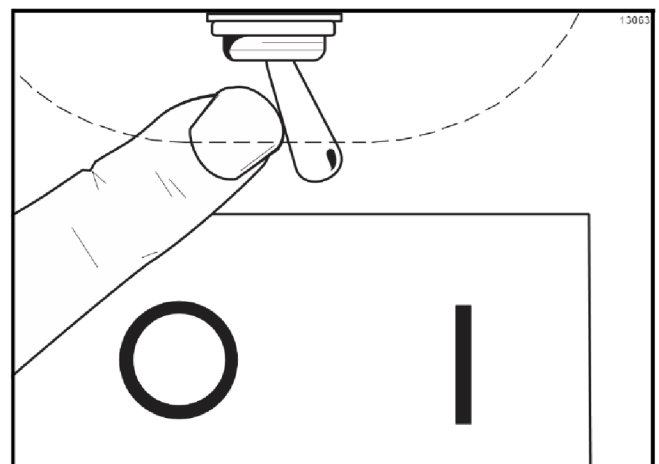

Figure 5-13
6. Place the power switch in the ON position. Figure 5-13.